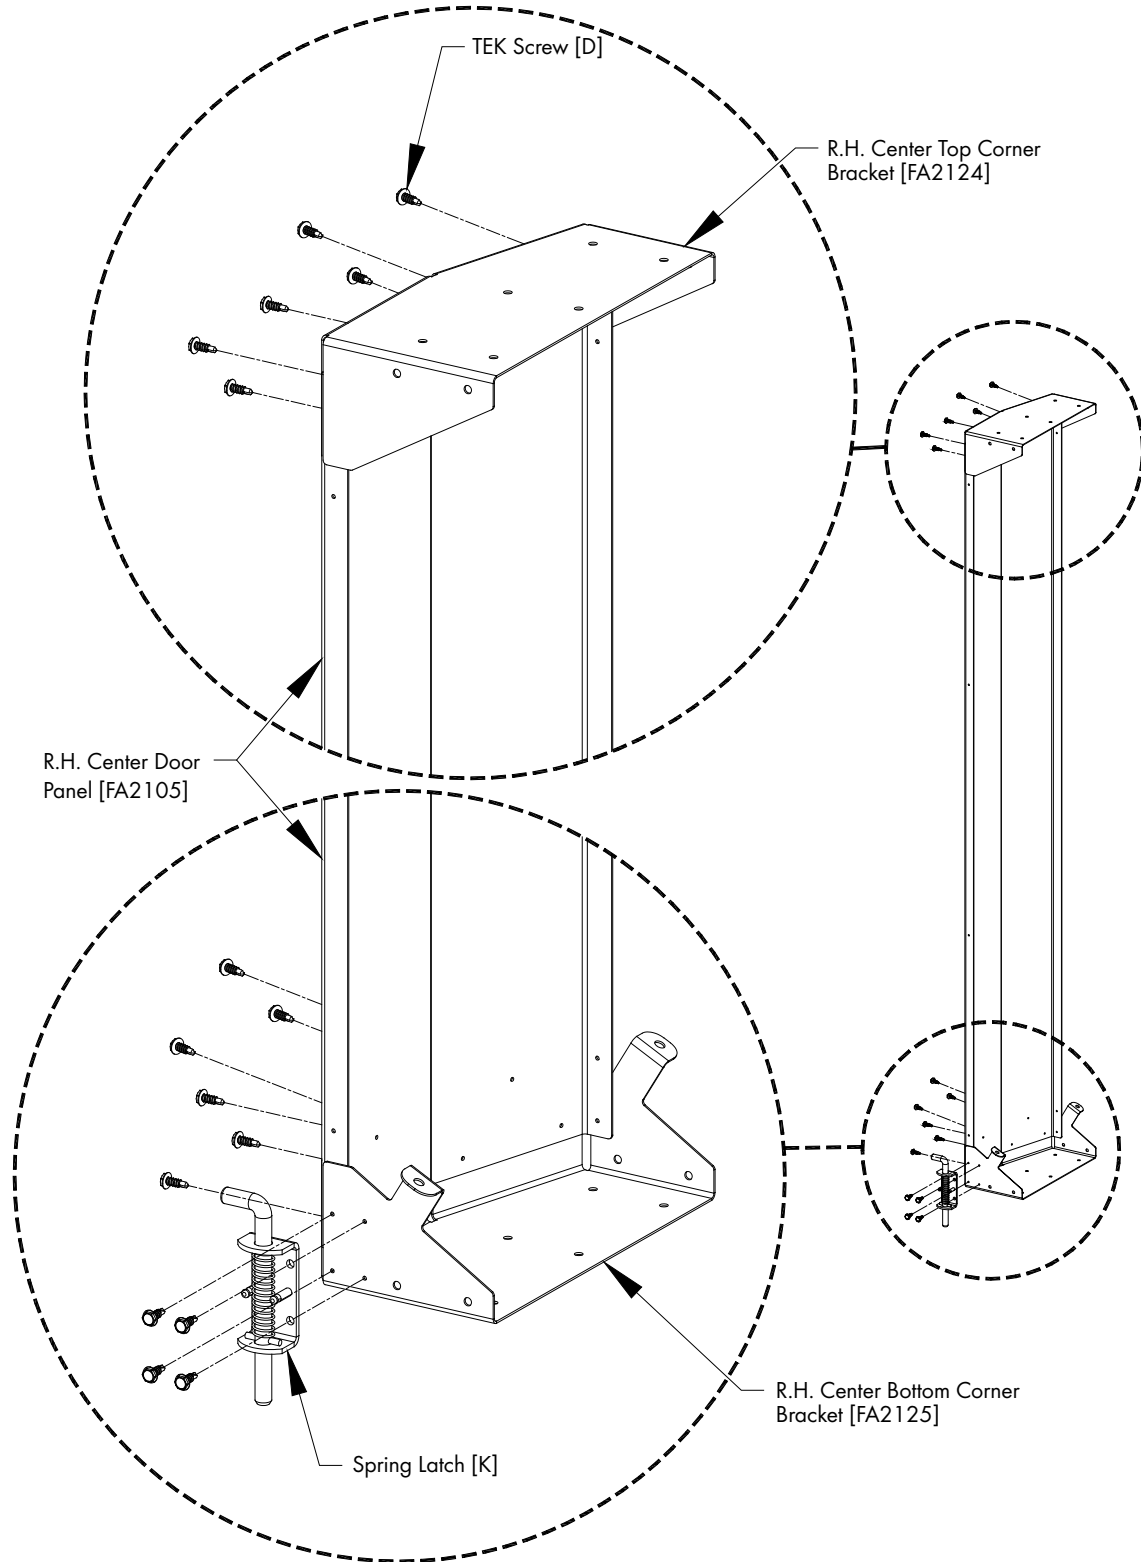

Figure 18
Attach R.H. Center Top Corner Bracket [FA2124] and R.H. Center Bottom Corner Bracket [FA2125] to the R.H. Center Panel [FA2105] using (12) TEK Screws [D]. Secure Spring Latch [K] to front of Bottom Corner Bracket using (4) TEK Screws [D] so that the Spring Latch will be on the same side of the door as the Leaf Hinge. See Figure 18.